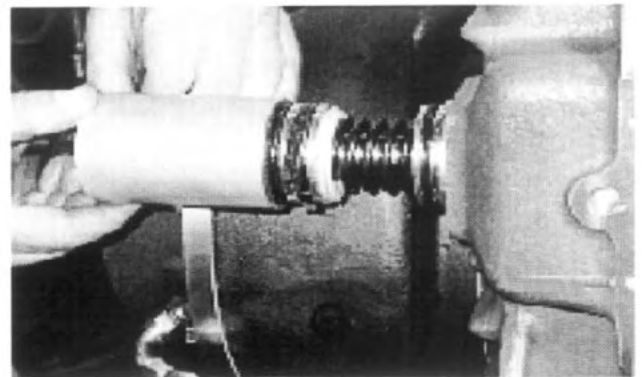

Fig. 8
10. Gently rock the cylinder to and fro to aid in removing the bottom portion of the air shift cylinder. See Fig. 8.